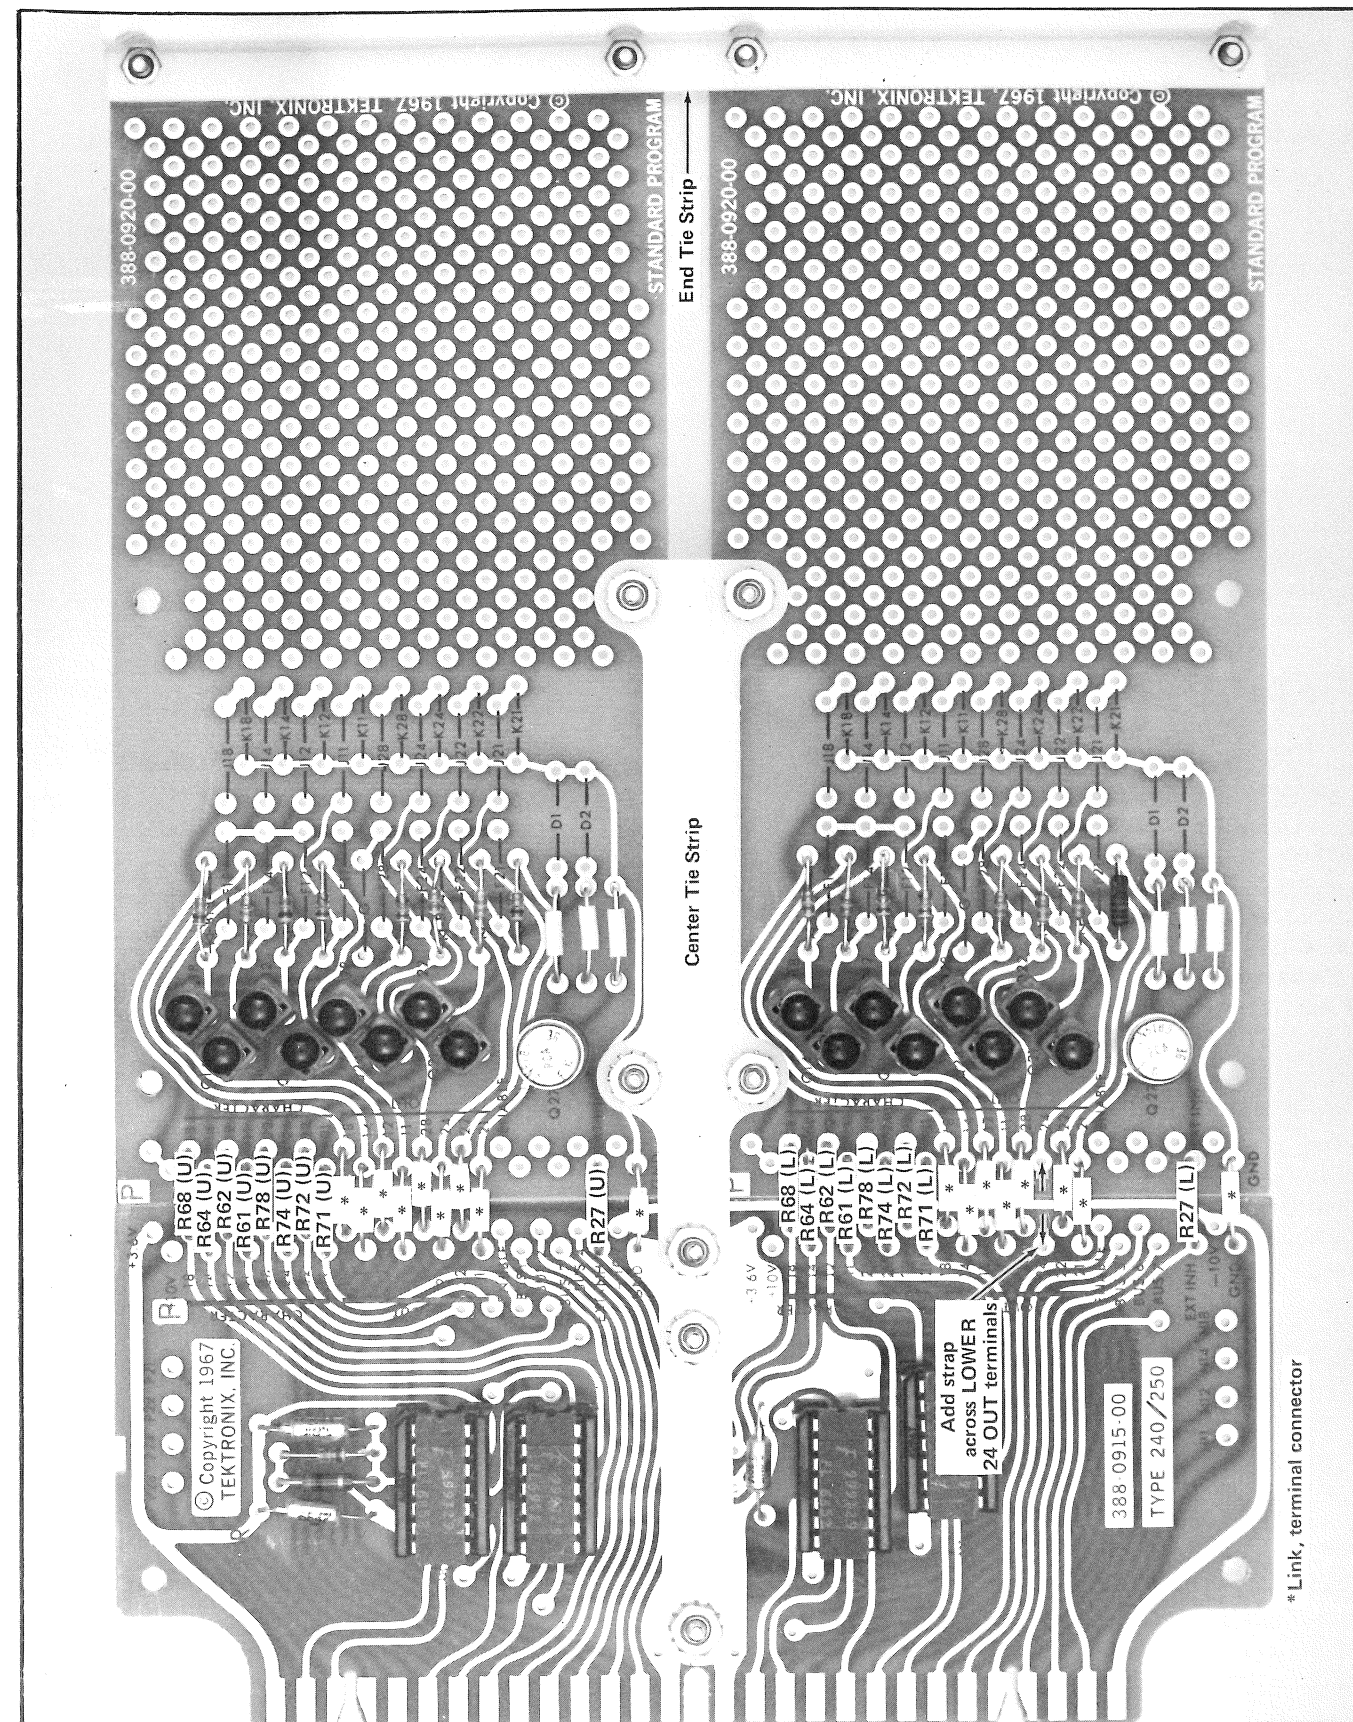

Fig. 2-21. Modification of Type 240 P4 Program Assembly.
b. Solder a strap (#24 insulated wire) between the LOWER 24 OUT terminal on the shift register card and the LOWER 24 OUT terminal on the standard program board (see Fig. 2-21).
b. Attach the two plastic center tie strips, included with the shift register kit, to the shift register card (see Fig. 2-21). Use the P4 Program Assembly from the Type 240 as a model. Attach the two standard program boards to the tie strips. Attach the end tie strip to the assembly.